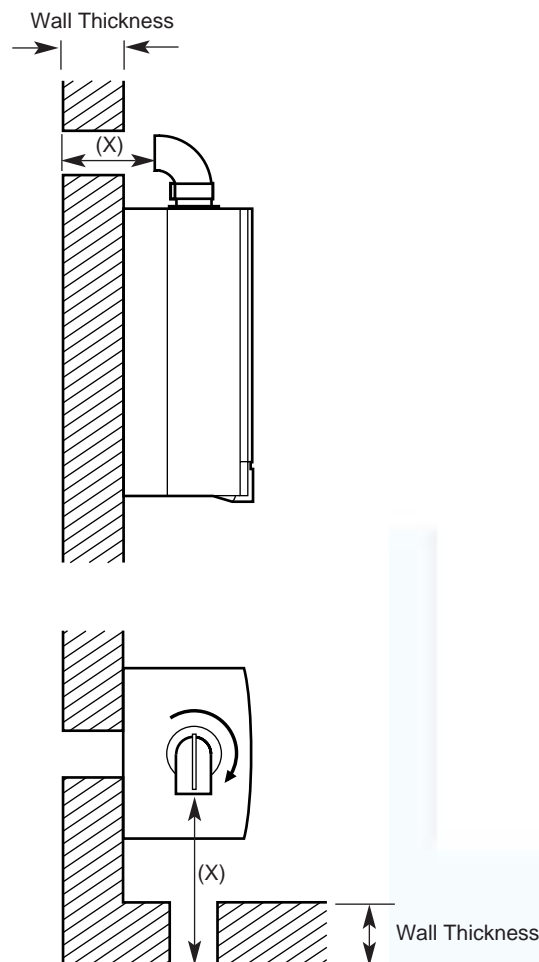

Fig. 20
4. Measure the distance from the outside wall face to the elbow (Fig. 20). This dimension will be known as 'X'.